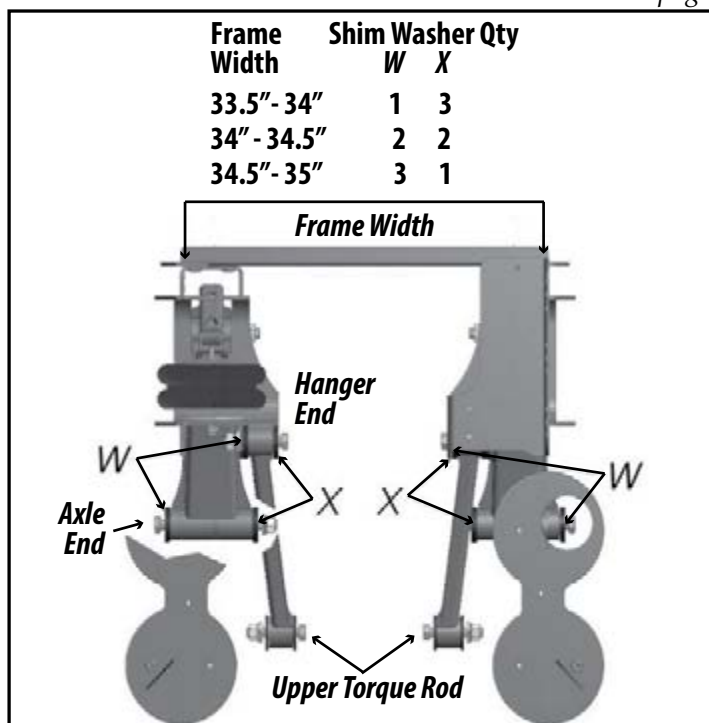

Figure 19. Adjust the frame width by securing crosschannel at the desired width. Install shim (wear) washers at the marked locations for the correct alignment.
- Count and note the number of wear washers on each side of the upper torque rod (Hanger-End) and the lower torque rod (Axle-End). The number of wear washers will vary with the frame width (Figure 19).